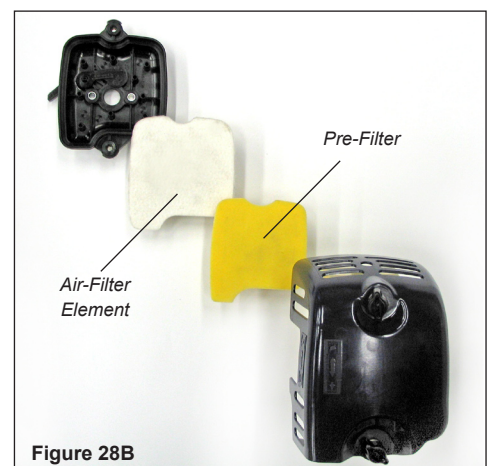

Figure 28B
2. Remove and inspect the pre-filter. If the pre-filter is torn or otherwise damaged, replace it with a new one. See Figure 28B.